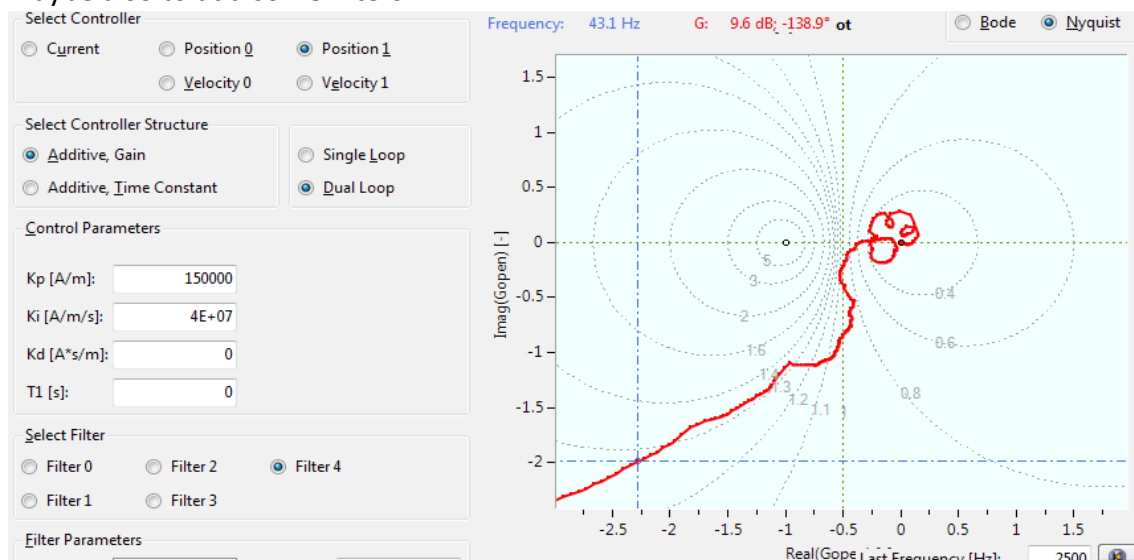

Figure 10: Nyquist view of the tuned outer controller loop.
- Now the integrator gain K_i can be adjusted in the **Nyquist** view so that the open loop transfer function touches but not exceeds the circle labeled with 1.3 (Figure 10). This may require also to adjust the proportional gain K_p . The following equation can be used to calculate an initial value for K_i .